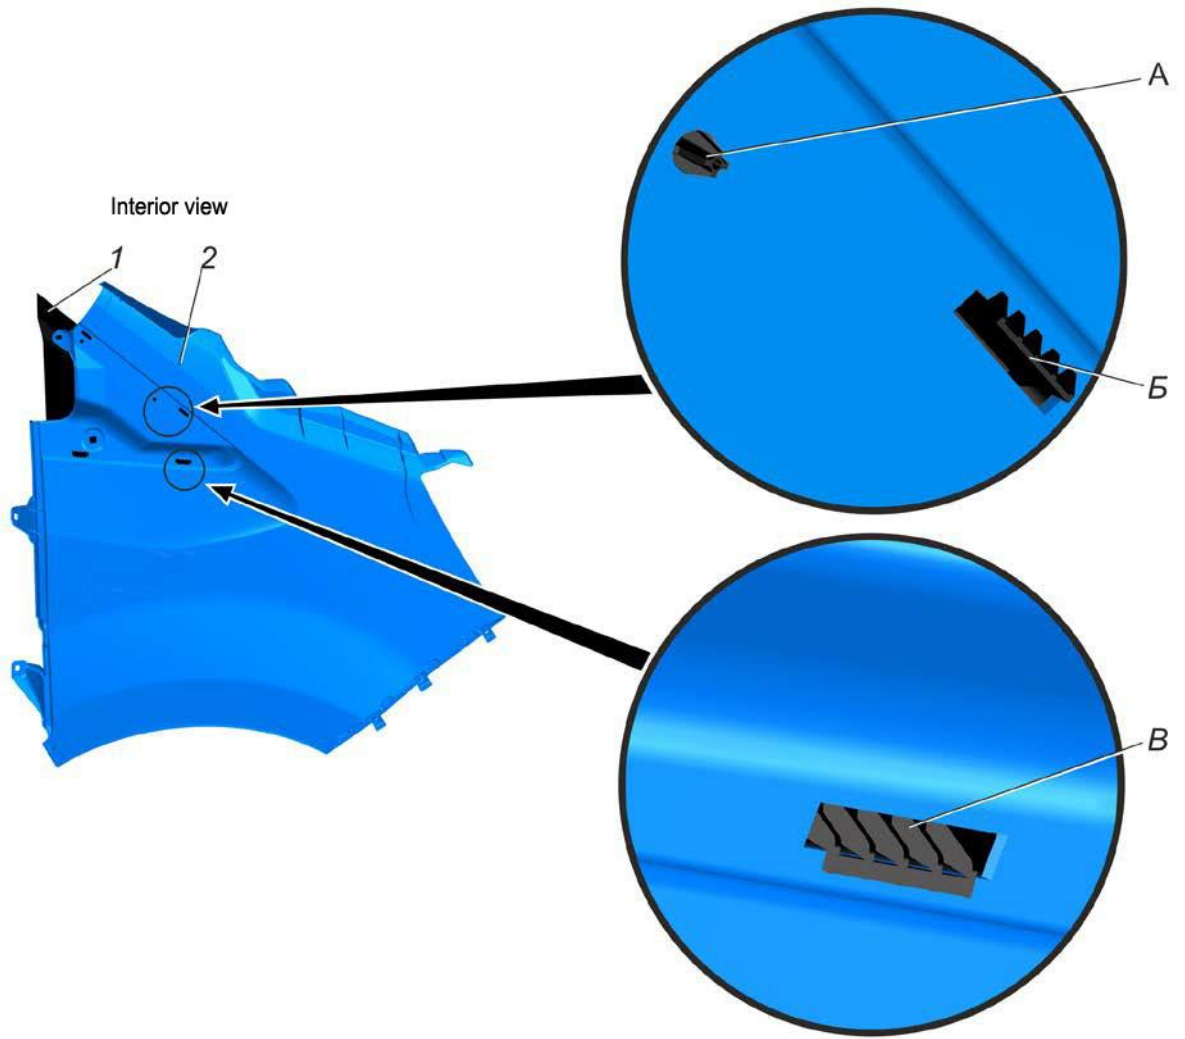

Fig. 8.18. Mirror molding fasteners: 1 - mirror molding; 2 - front fender
- disengage from the fender two latches B (Fig. 8.18) and two centering protrusions A securing the molding 1 and located along the upper edge of the molding;